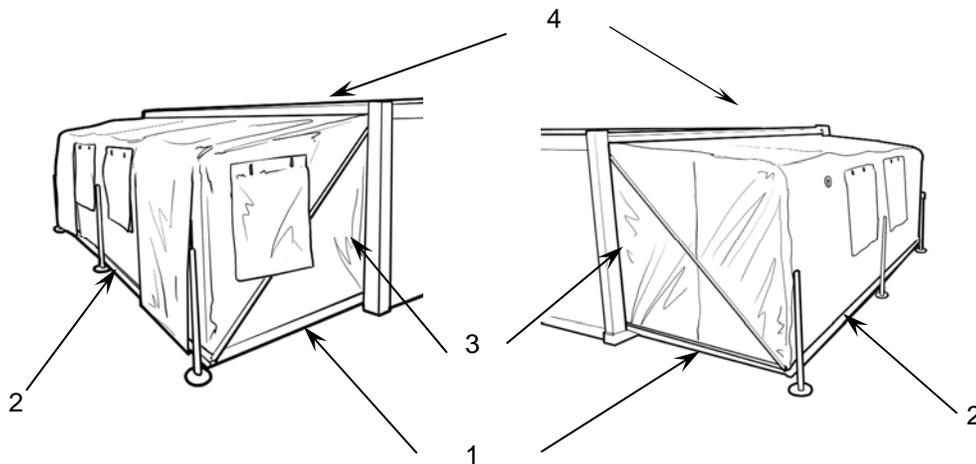

Figure 7. Fabric Side Removal/Replacement
1. The shelter wing (1) (see Figure 7) must be fully lowered and supported by wing jacks. If the CK is packed out, all appliances may remain where they are tied down. If the CK is set-up for operation, all appliances must be moved to the opposite wing. Remove the shelter arch components from the fabric side to be replaced. Refer to WP 0006 00 and only follow the processes to remove the shelter arch components. Place the frame components inside the shelter out of the way.
2. Starting at either end and along the edge of the shelter wing (1) (see Figure 7), remove and retain the screws and mounting strips that secure the fabric to the wing. Remove only the top-mounting strip along the wing that secures the fabric, not the lower strip that secures the black rubber seal. Repeat the process along the entire length (2) (see Figure 7) and ends of the CK wing. After all hardware has been removed, pull the fabric away from the wing edge. The fabric may be bonded with sealant to the wing edge; if this is apparent, some force may be needed to pull the fabric loose from the wing edge.
3. Roll the fabric along its length (2) (see Figure 7) until the fabric roll is as close to the shelter as possible and still be lying on the wing floor where the wing is hinged to the shelter. Starting at one end of the shelter, remove and retain the machine screws and mounting strips at the ends (3) (see Figure 7) and along the top (4) (see Figure 7) of the shelter. After all hardware has been removed, pull the fabric away from the shelter and remove the fabric side. The fabric may be bonded with sealant to the shelter edge; if this is apparent, some force may be needed to pull it loose from the shelter. Fold the fabric for disposal.
1. In an area free of rocks and other debris that may damage the fabric, completely unfold the replacement fabric side, white side up. Determine the long edge of the fabric side that is to be attached along the top of the shelter. The long edge (2) (see Figure 7) of the fabric that is closest to the doors or windows attaches to the wing edge. The opposite long fabric edge attaches to the shelter top (4) (see Figure 7). First fold this top edge in half and mark the center of the fabric with a black marker. Unfold the fabric with the white side up. Fold the long edge of the fabric that is closest to the windows and doors and will attach to the wing. Mark the center of the fabric with a black marker. Unfold the fabric with the white side up.
2. Starting at the long edge (2) (see Figure 7) of the fabric closest to the windows or doors tightly roll the fabric up lengthwise. Window flap or door flap will be hanging toward the edge that you roll. Place the rolled up fabric side on the shelter wing (1) (see Figure 7) and as close to the shelter as possible.